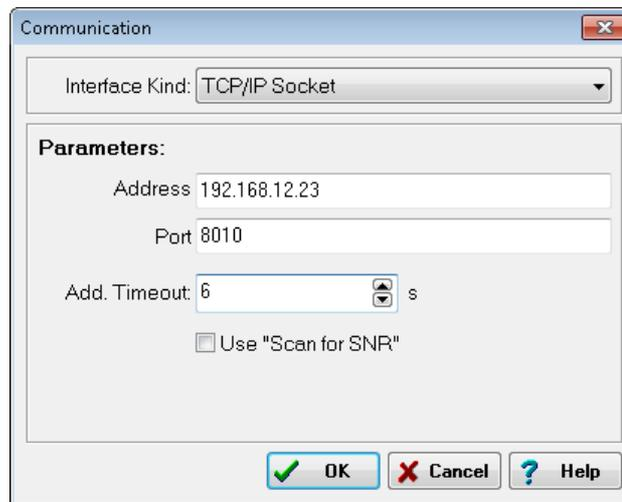

Abb. 5-1 Specifying the interface.
2. Specify the interface for the connection: **TCP/IP Base** (Fig. 5-1).
because, as delivered, all modules have a unique address (Fig. 5-1).